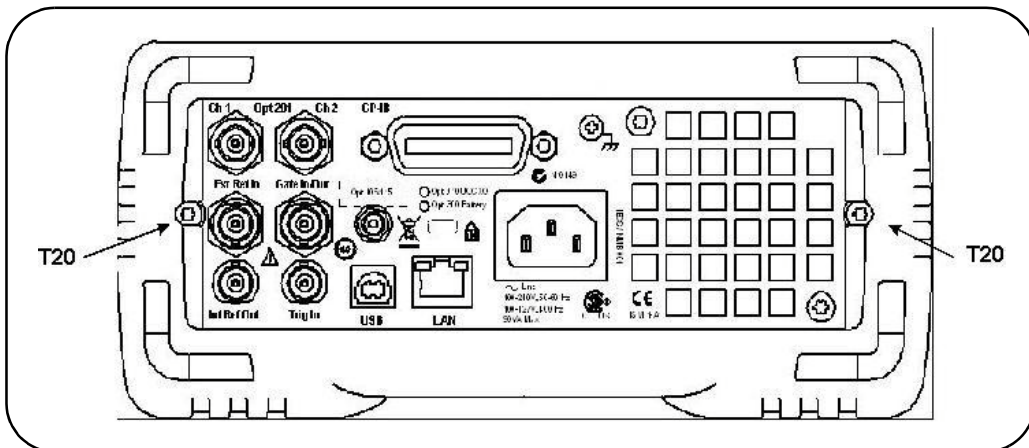

Figure 2. Rear Bezel and Cover Removal.
3. To remove the rear bezel and cover, loosen the captive screws on the sides as shown in Figure 2 using a Torx 20 screwdriver.